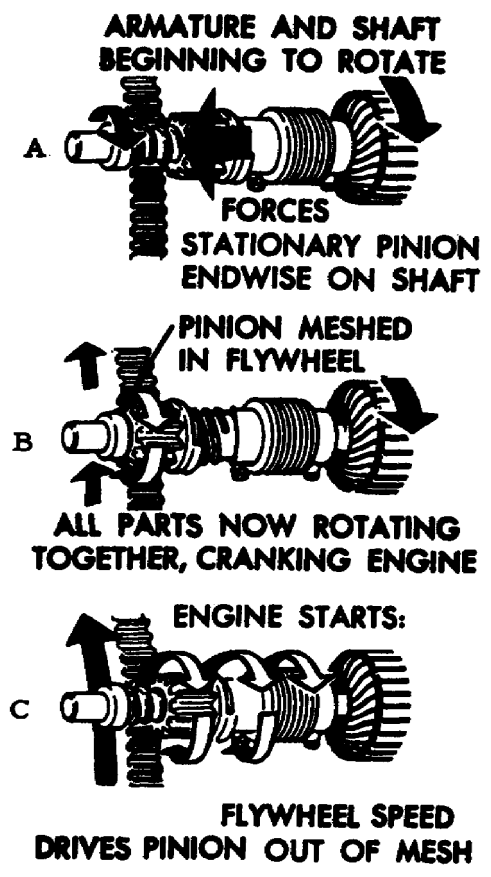
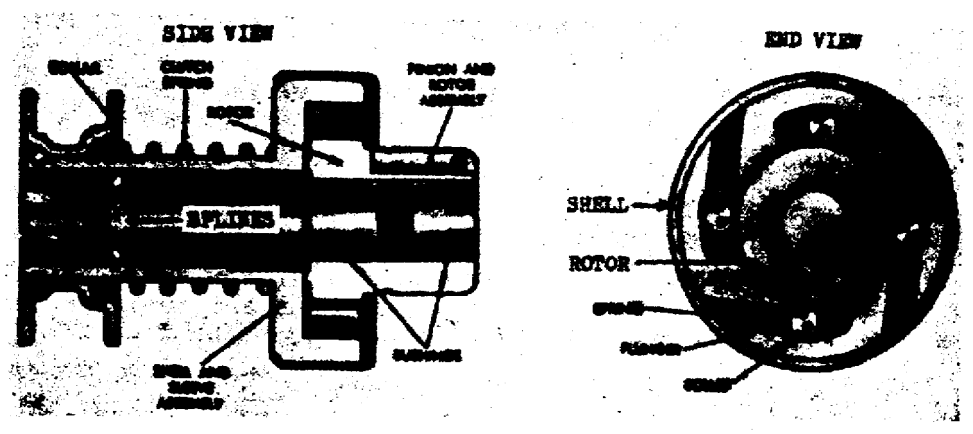

Figure 4. Bendix drive.
Figure 5. Over-running clutch.
b. The Bendix drive (fig 4) consists of a threaded sleeve, which is fastened to the armature shaft by means of a drive spring, and a drive pinion which is threaded on the sleeve. The pinion has a weight on one side to make it unbalanced. Think of the sleeve as a bolt and the pinion as a nut threaded to the bolt. A weight is attached to the nut. If we spin the bolt, the nut, because of the weight, tries to stand still. However, the spinning bolt would force the nut to move forward or backward on its threads, depending on which way the bolt was spinning.
(1) Now look at A of figure 4. The armature has started to turn and the pinion, which is not turning because of the weight on one side, is moving toward the flywheel ring gear. In view B the teeth on the pinion gear have meshed (engaged) with the teeth on the ring gear. The pinion has reached its stop and cannot move any further on the threaded sleeve. It is now locked to the sleeve and must turn with it. The now rotating pinion turns the flywheel gear, which in turn rotates the flywheel ring gear and engine crankshaft.
(2) As soon as the engine starts, its speed of rotation is faster than that of the pinion. The ring gear now drives the pinion because it is turning faster. The pinion then moves back on the threaded sleeve and disengages from the ring gear.
c. In the over-running clutch type of starter drive (fig 5) the pinion is shifted into engagement with the flywheel with a lever.
(1) The drive for the over-running clutch has internal (inside) splines which fit external splines on the starter armature shaft. The drive pinion is attached to a rotor which forms the inner half of the over-running clutch.
(2) Now look at the end view of the over-running clutch, which is really a one-way clutch. It can drive in one direction, but not the other. The outer shell is part of the splined sleeve, so it rotates when the starter armature rotates. The only connection between the shell and the rotor is the four spring-loaded rollers between them. Notice the rollers are in slots in the sleeve. They can move back and forth in the slots. The slots are tapered slightly. When the sleeve starts to rotate the rollers move in their tapered slots to a point where they become wedged (jammed) between the sleeve and the rotor. Then the whole clutch turns as a single unit. When the engine cranks, the rollers are forced to move the other way in their slots, because the pinion and rotor are now traveling faster than the over-running clutch sleeve.